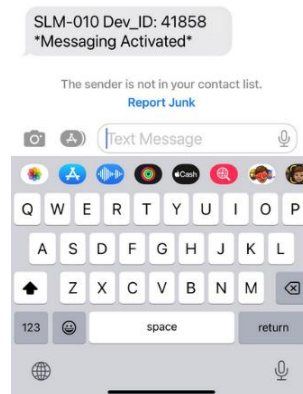
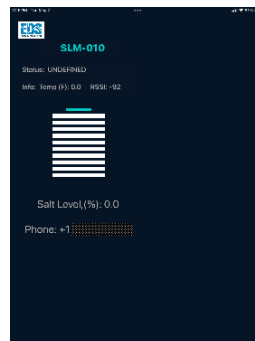

Figure 7 Activation Message
Figure 8 Message Phone number at start (iPad screenshot)
During application start up, the activation message will be sent to indicated phone number (see Figure 7) and the phone number will be shown on application front panel for approximately 5 seconds (see Figure 8).
5. If phone number is presented in SLM-010 contacts, the activation message will be sent to indicated phone number (see Figure 7) and the phone number will be shown on application front panel for approximately 5 seconds (see Figure 8).